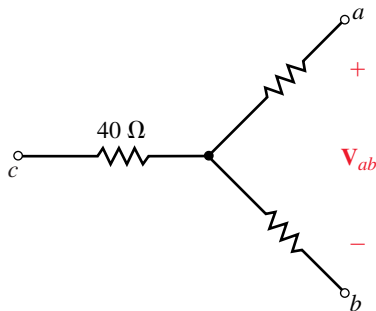

FIGURE 23-50
32. For the balanced load of Figure 23-50, $V_{ab} = 600\text{ V}$. Determine per phase and total active, reactive, and apparent power.